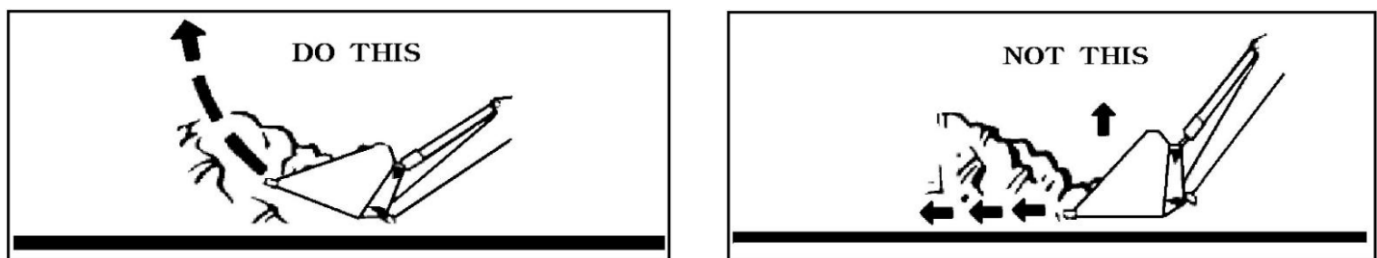

Fig 4.3 Scooping operation.
- The lift and rollback of the bucket will increase efficiency because a level bucket throughout the lifting circle resists bucket lift and increases breakaway effort shown in figure 4.3.